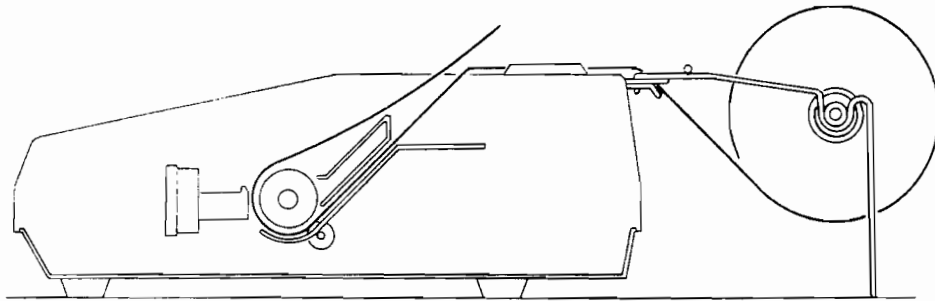

Figure 7 Roll Paper Feed
4. Insert the Roll Paper Shaft through the standard 1" roll paper core and put the core hub through the shaft. Place the paper/shaft onto the holder so that the paper feeds from the bottom of the roll (see Figure 7).